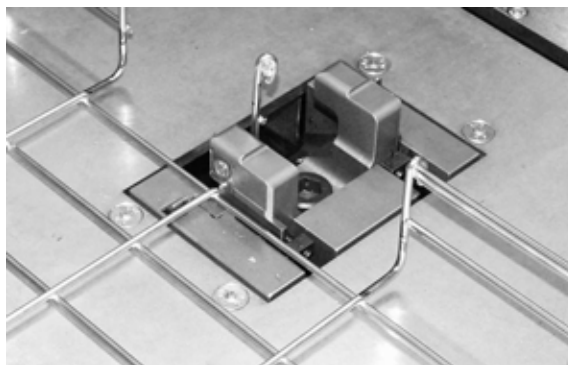

*Fig. 4.30 – Lateral double cuts*
3. carry out all lateral double cuts (fig. 4.30) following the same procedure for top/tail cutting described in Paragraph 4.3.2.5 “Top/tail cut”;